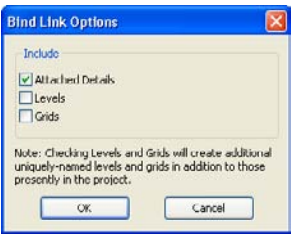

Figure 8.18
**Bind** The Bind tool allows you to reverse a decision to create a link from a group, by letting you turn the link back into a group instead. It also allows you to choose to convert a linked file into a group even if you didn't use the Link tool before. The process starts with the selection of a linked file. When you have at least one linked file selected, you'll find the Bind Link button on the ribbon's Link panel. Revit displays the Bind Link Options dialog box (see Figure 8.18) to let you define how the link should be reassembled into a group. If you happen to choose a link that shares its name with a group already, then you'll encounter the Duplicate Group Names dialog box, as shown in Figure 8.19. If you bind all of the linked files, you'll get another message asking whether you want to remove the link completely or keep it around, just in case you need it again later (see Figure 8.20).